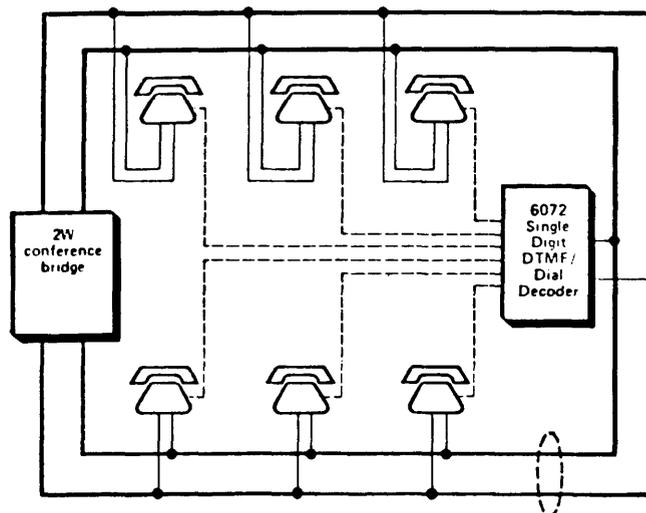

FIGURE 1
3.01 The 6072 Single Digit DTMF/Dial Decoder is typically used in applications requiring selective signaling or control functions from a single input digit. When used in TELLABS' 291 Conference/Alerting System, for example, the 6072 provides the means for any conference subscriber to activate a community siren by depressing the (*) pushbutton of the conference telephone set. The 6072 can also provide the dispatcher with the means to selectively signal up to 12 separate groups of conference stations, thus permitting the dispatcher to call only those crewmen required for a particular emergency. Figure 1 shows a typical circuit arrangement. In this example, the 6072 is used on a local party line circuit to provide selective signaling for up to 12 stations. The 6072 permits any station on the party line to access any other station by dialing a single digit. Since all the stations are in close proximity to each other, the required signaling and reset leads are metallic loops connected directly from the 6072. Because of its inherent flexibility, the 6072 is also suitable for remote telemetry applications.